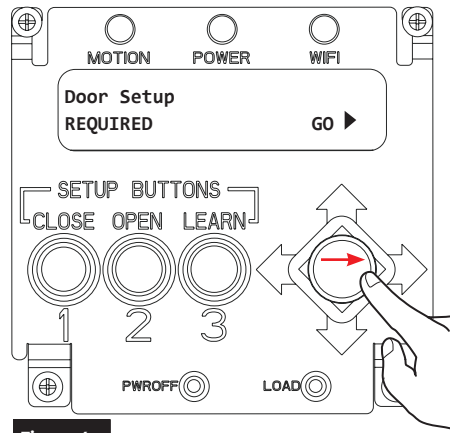

Figure 4
1. On the Door Setup REQUIRED menu, select "GO" by pushing the joystick to the right. (Figure 4)